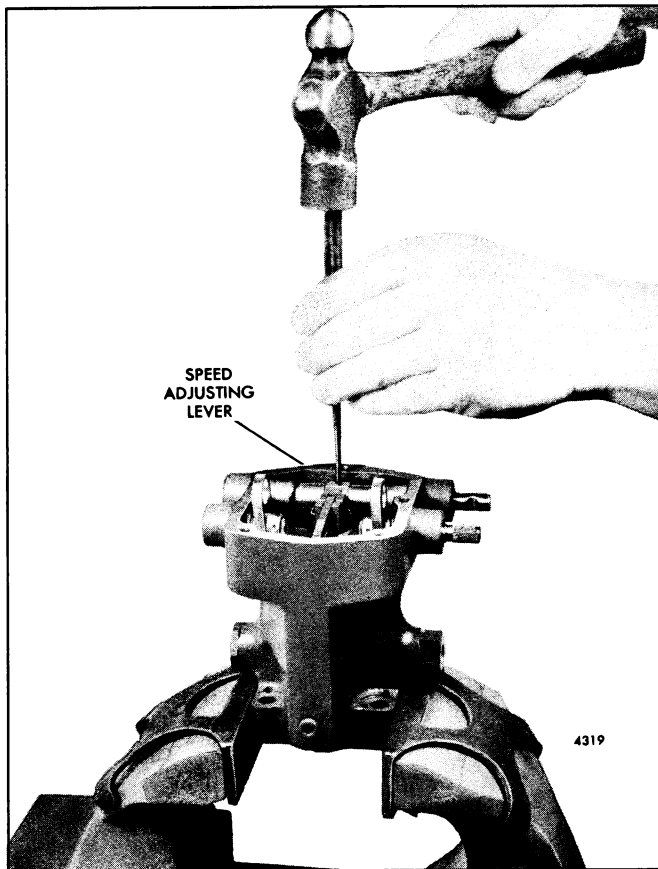

Fig. 11 - Removing Speed Adjusting Lever Roll Pin
8. Use a punch and drive the roll pin out of the speed adjusting lever and shaft (Fig. 11).